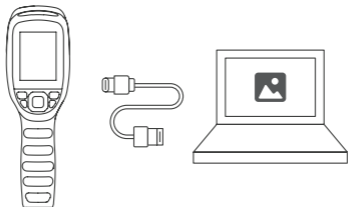

Figure 4.1
2. Connect TC005 to your computer with the supplied USB cable (see Figure 4.1).